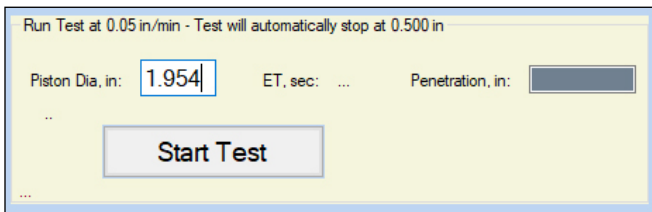

Figure 6: Run a test
3. Ensure the correct piston diameter is entered (Figure 6). This diameter will be used in the final calculations.
4. Place the sample in the load frame and seat the piston. Once seated, click **Start Test** (Figure 6) then select **UP** on the load frame to start the platen advance. The software will continue to collect data until the travel has reached 0.500in or until **Stop Test** is selected. At this time you can stop the load frame, otherwise it will travel until the upper limit has been reached.